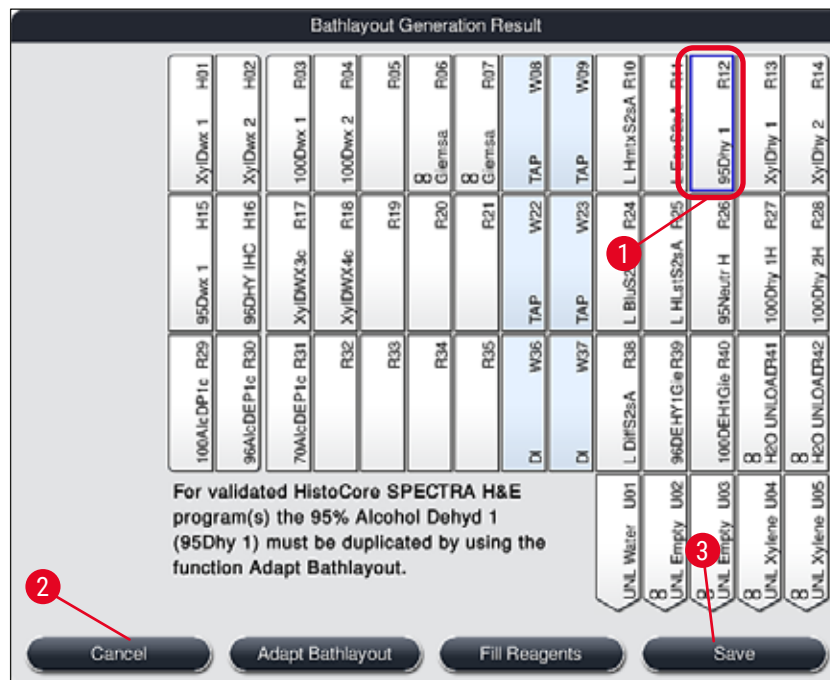

Fig. 53
- After the software calculates the bathlayout using the prioritized programs, the user obtains an overview of the results displayed on the screen (→ "Fig. 53").
- If no Leica programs have been integrated into the bathlayout, the display (→ "Fig. 53") deviates from the one shown (not pictured). In this case, the reagents can be filled as described in (→ P. 81 – Filling the reagents).